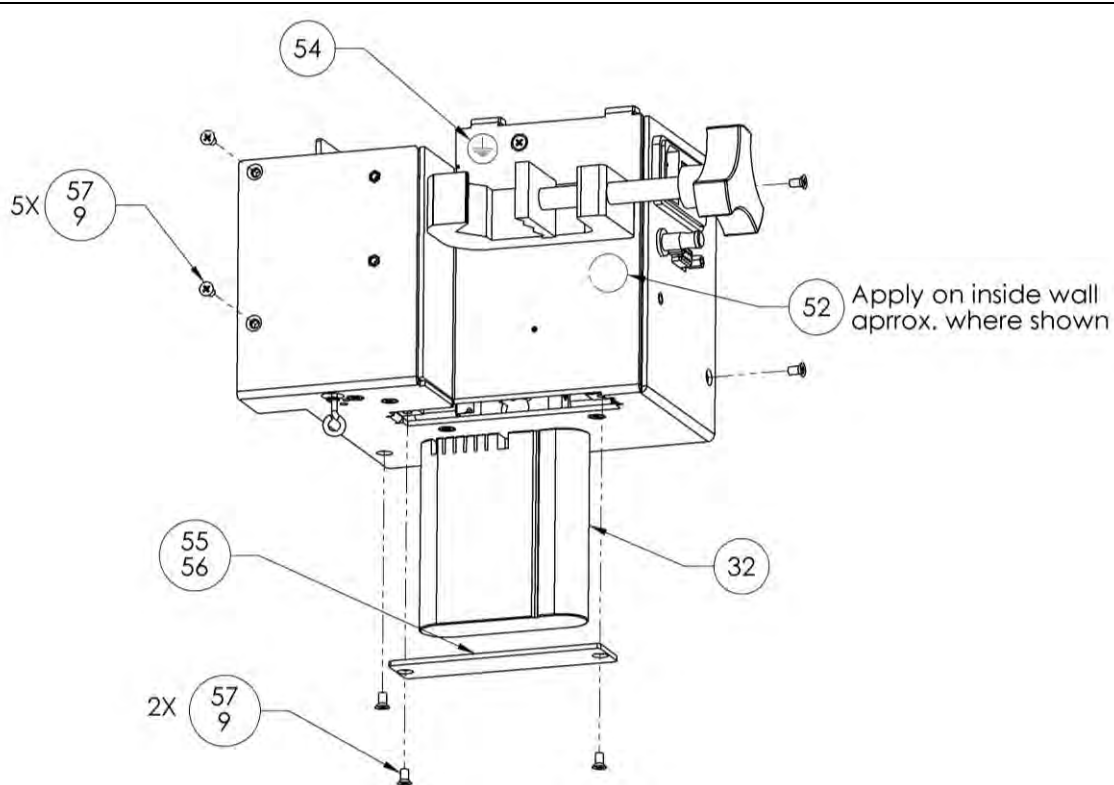

Figure 2
- Secure the Battery cable assembly PCB (item 6) to the Battery Bracket (item 7) using 2 screws with split lock and flat washers (items 10, 50 and 51).
- Secure the Battery Bracket (item 7) to the frame (item 59) using 3 screws and Loctite 242 (items 57 & 9).
- Frame Closure (figure 2)
- Secure the two assembled frame sections using five screws and Loctite 242 (items 57 & 9).
- Install the power entry module (item 28) into the frame (Item 59). Insure that the power module switch is oriented as shown:
Battery (item 32) Installation: (figure 2)